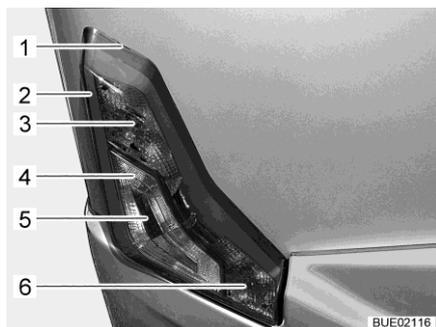

Fig. 313 Rear lights
- Insert flat tool into notch (Fig. 313,1) and carefully lever off the housing.